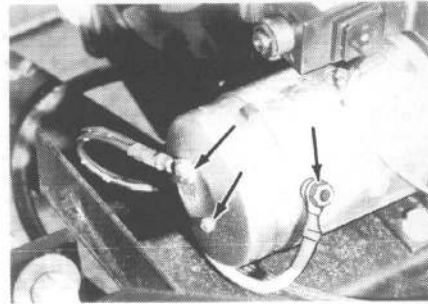

Figure 2-4
10. Position motor end cap and secure with two screws, ground strap and POS terminal. See Figure 2-4.